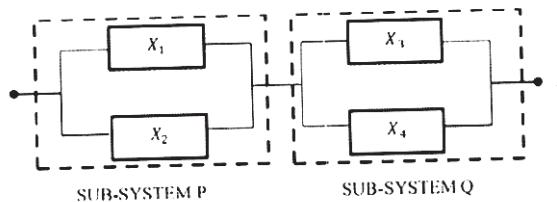

Fig 2
c) In the block diagram shown in fig 2. Let I and O be the input and output terminals. There are two sub-systems P and Q that are connected in series, The system fails when either of these two sub-systems fails. Draw the fault Tree diagram. [8]